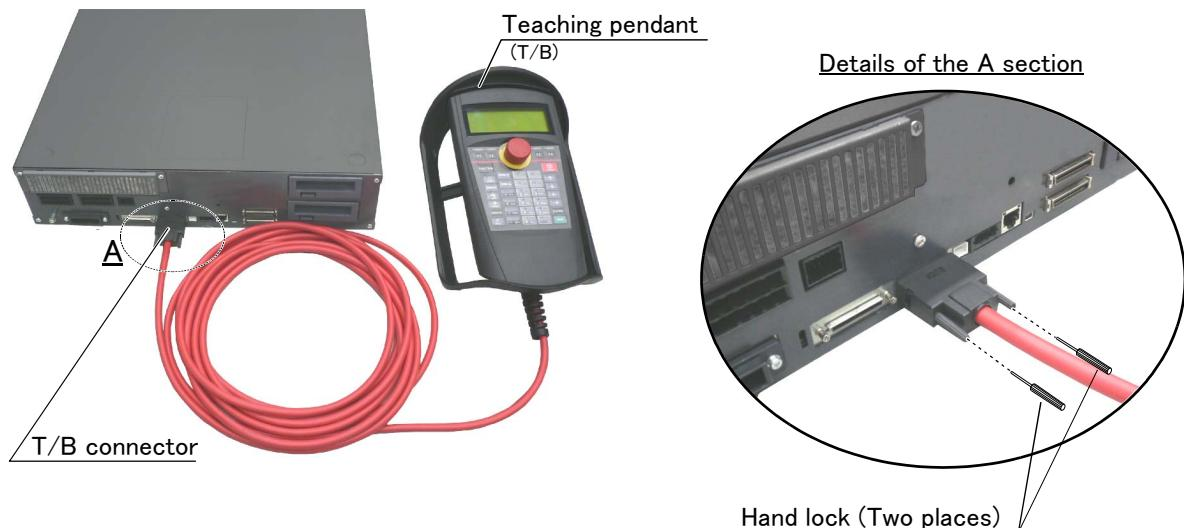

Fig. 2-14 : Installing and removing the T/B (CR751controller)
- 2) Connect the T/B connector to the controller's T/B connector. Make sure to fix it securely by fastening the hand locks (in 2 places), as shown in Fig. 2-14.